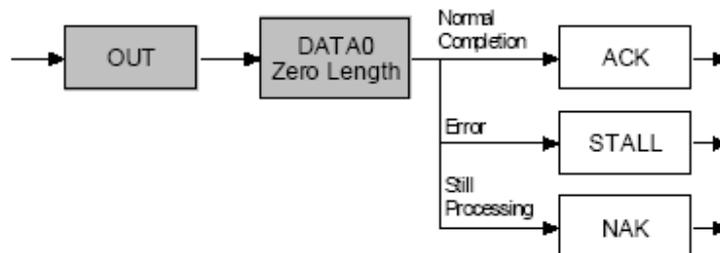

Figure 6-26: Status Out Stage
• **OUT (Figure 6-26):** If the host sent OUT token(s) during the data stage to transmit data, the function will acknowledge the successful receipt of data by sending a zero length packet in response to an IN token. However if an error occurred, it should issue a STALL or if it is still busy processing data, it should issue a NAK asking the host to retry the status phase later.